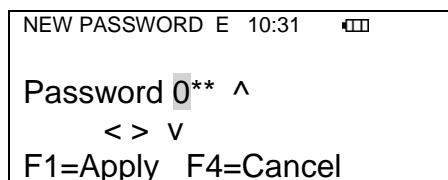

Figure 25: Entering a New Password
4. To specify a password, enter three characters. The **Horizontal Scroll** bar selects between the various fields; the **Vertical Scroll** bar changes the value in the selected field. For security purposes, only the value of the currently selected field is displayed, and the other two fields are shown as asterisks (see Figure 25: Entering a New Password).